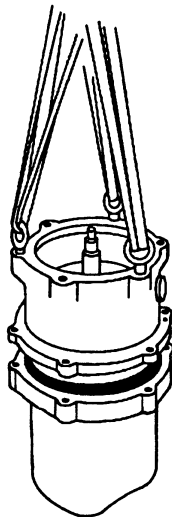

Figure 5. Separating Upper and Lower Motor Housings
See Figure 5, and install three 1/2-16 UNC lifting eyes (not supplied) in the tapped holes for the capscrews (10) in the lower motor housing, and hook a three-leg sling to the lifting eyes. Use a suitable hoist to support the pump.